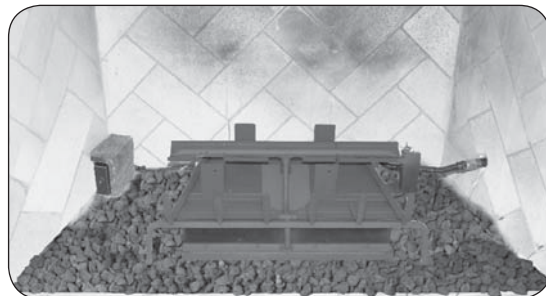

Fig. 13-2 Place lava media
1. Spread the supplied lava granules on the floor of the fireplace, around the front and sides of the burner system (see Fig. 13-2). The lava granules may be placed around the switch box. Leave the front of the switch box clear for control access.